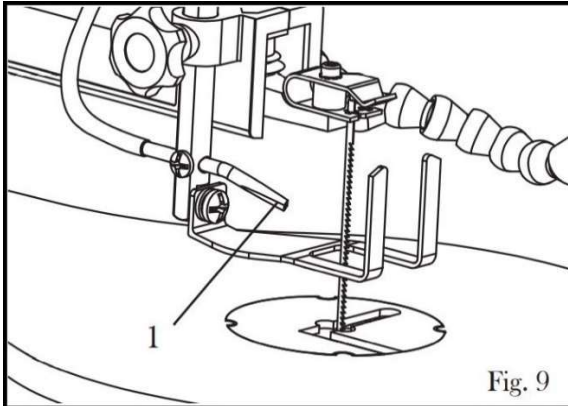

Figure 9
For optimum results, the saw dust blower tube (1) should be adjusted so that air is directed at both the blade and the workpiece. See figure 9 below.